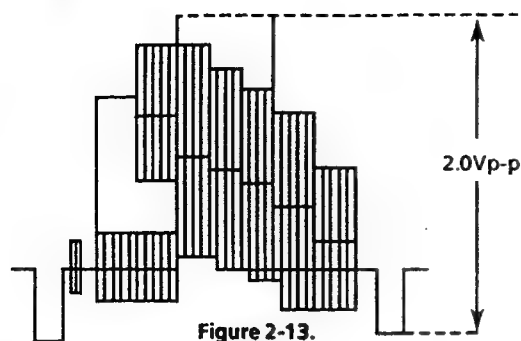

Figure 2-13.
- Hook up the oscilloscope to video output terminal. Adjust R209 (playback level control) so that the on-screen waveform be  $2.0 \pm 0.1\text{Vp-p}$  as shown in Figure2-13.